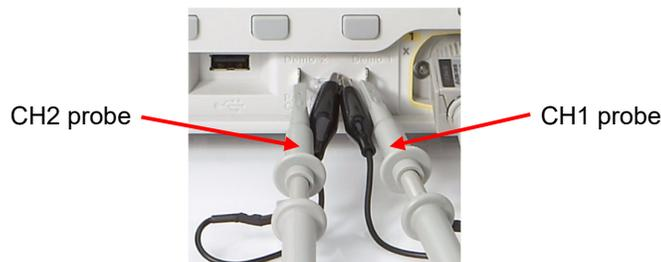

Fig. 6: Connection of DSO probe hooks and croc clips after experiment is done
14. Place the DSO probe hook clips and black croc clips as shown in Fig. 6 before leaving the lab.